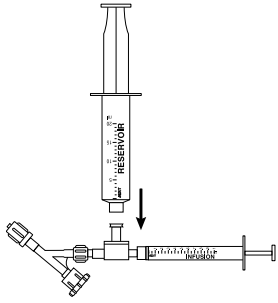

Figure 2
3. The 1 ml infusion syringe, CRV, and hemostasis valve are pre-assembled. Fill the 20 ml reservoir syringe with heparinized saline and attach to the inlet side-port of the check valve. (Figure 2)